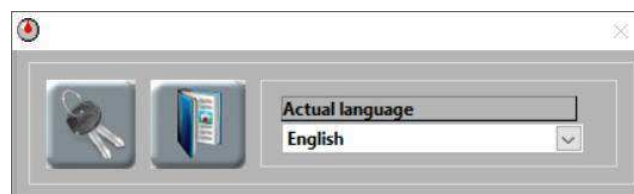

Fig. 6-4
8. The new language will now be available in the **Language selection cell** of the **System options panel** (see Fig. 6-4).